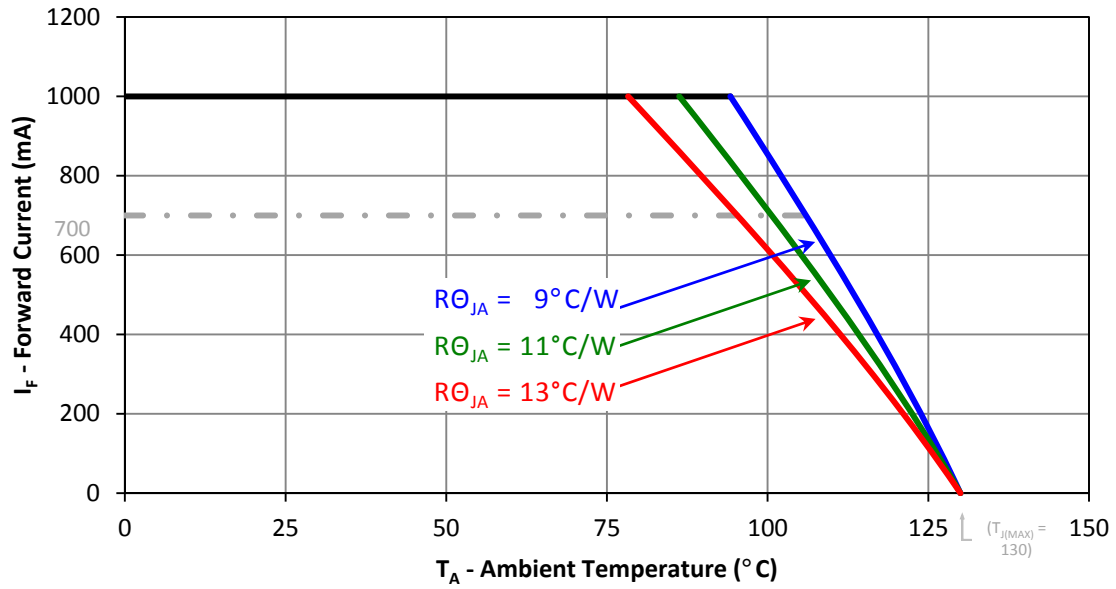

Figure 11: Maximum forward current vs. ambient temperature based on $T_{J(\text{MAX})} = 130^\circ\text{C}$.
1. Maximum DC forward current is determined by the overall thermal resistance and ambient temperature. Follow the curves in Figure 11 for current derating.
Notes for Figure 11: